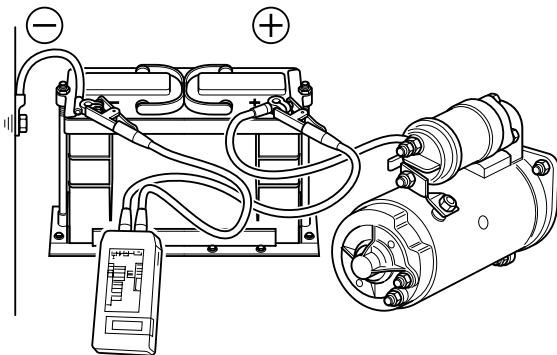

Fig 7.
- 1 Connect the voltmeter across the battery terminals. → Fig 7. (C-10). Reading in 'start' position: 10.0V approximately. Minimum permissible reading in 'start' position 9.5V.